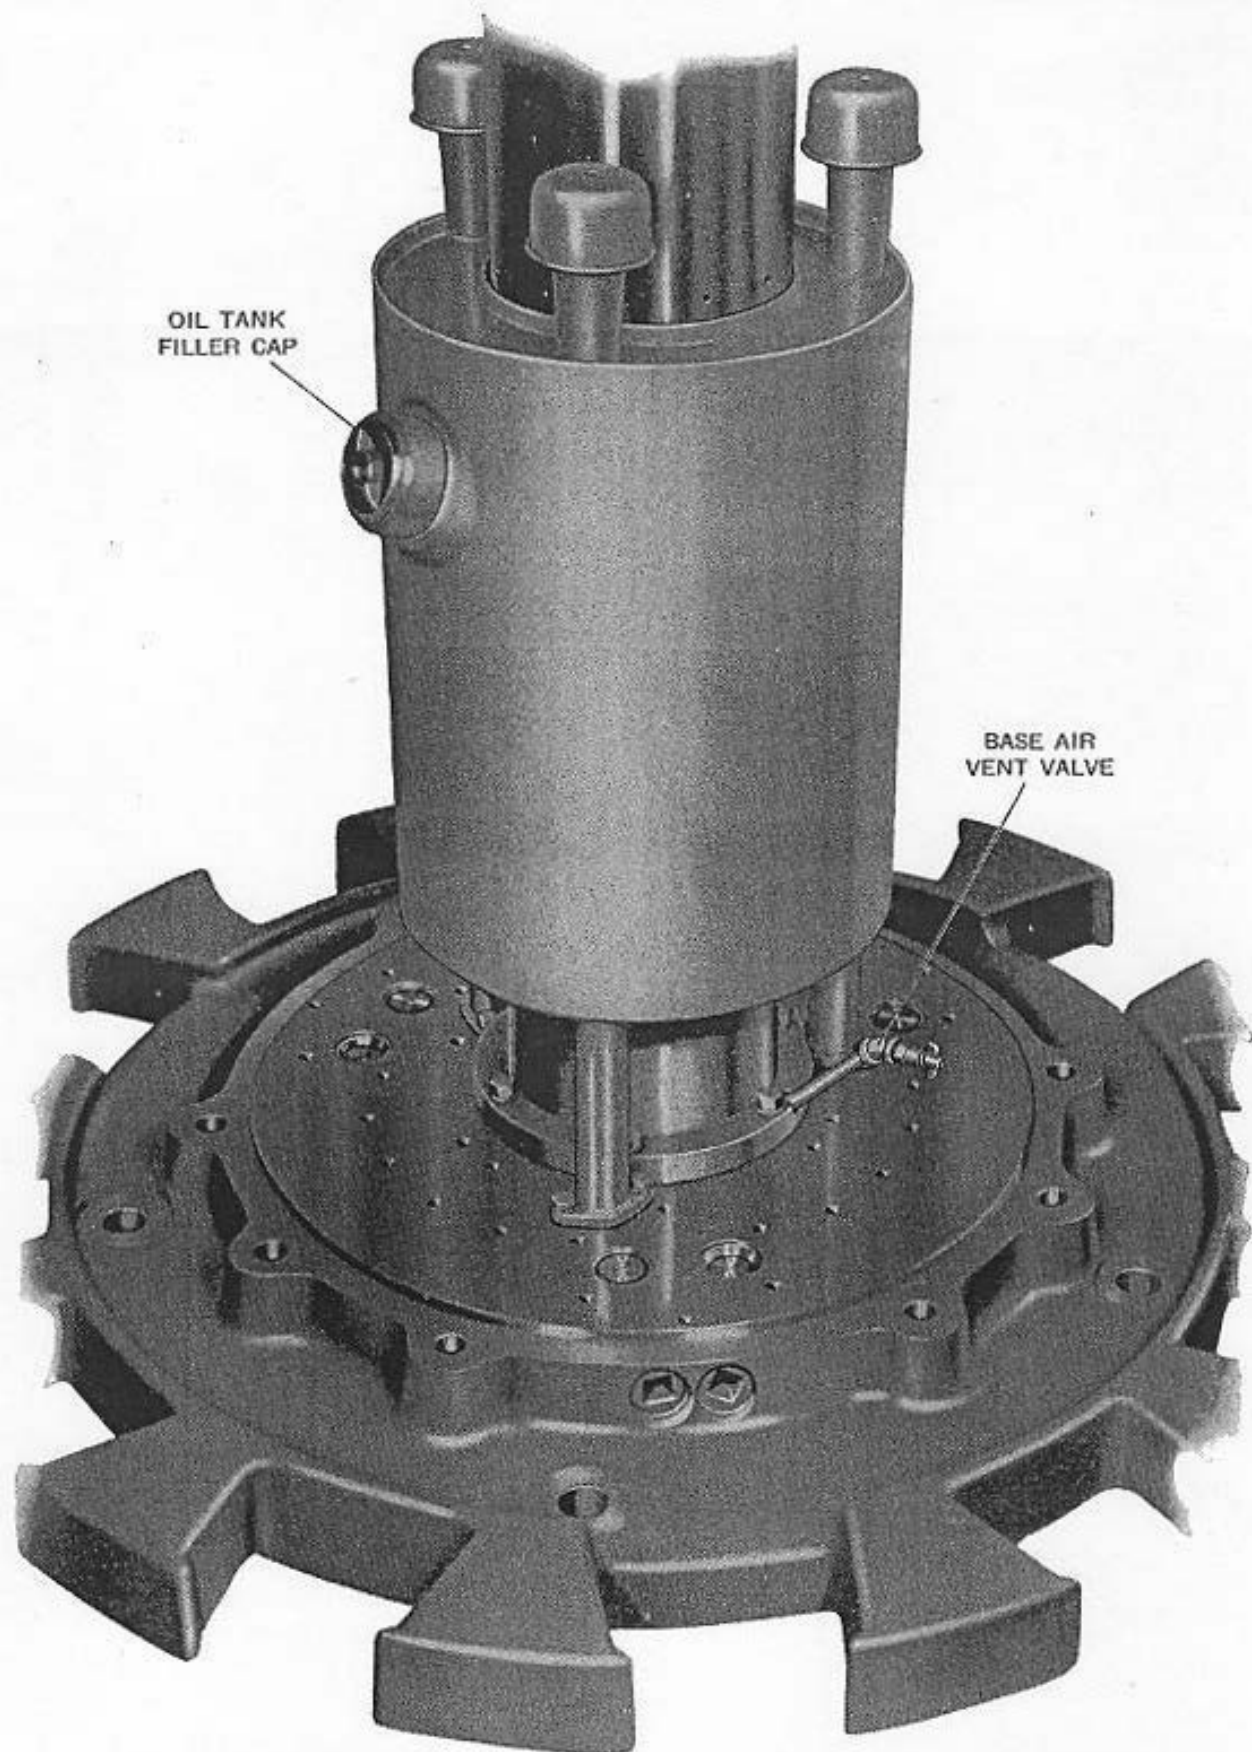

Figure 45—Position of oil tank filler cap in relation to base air vent valve
7. **OIL TANK ASSEMBLY (299931)**—Coat both sides of the three oil tank outlet pipe gaskets (299933-4) with sealer (299998-4) and place them on the base. Carefully clean the outlet pipe flanges of all old gasket material and lower the tank over the ram cylinder onto the base. Locate the tank on the base so that the filler hole in the side of the tank is 120 degrees (one third turn) clockwise (as viewed from the top) from the base air vent valve. See Figure 45. Fasten the tank to the base with six screws (12-Z-46-221) and new lock washers (OE-2270). Tighten screws securely with $\frac{1}{2}$ " socket (299995-3) and crank type wrench handle (299996-1).